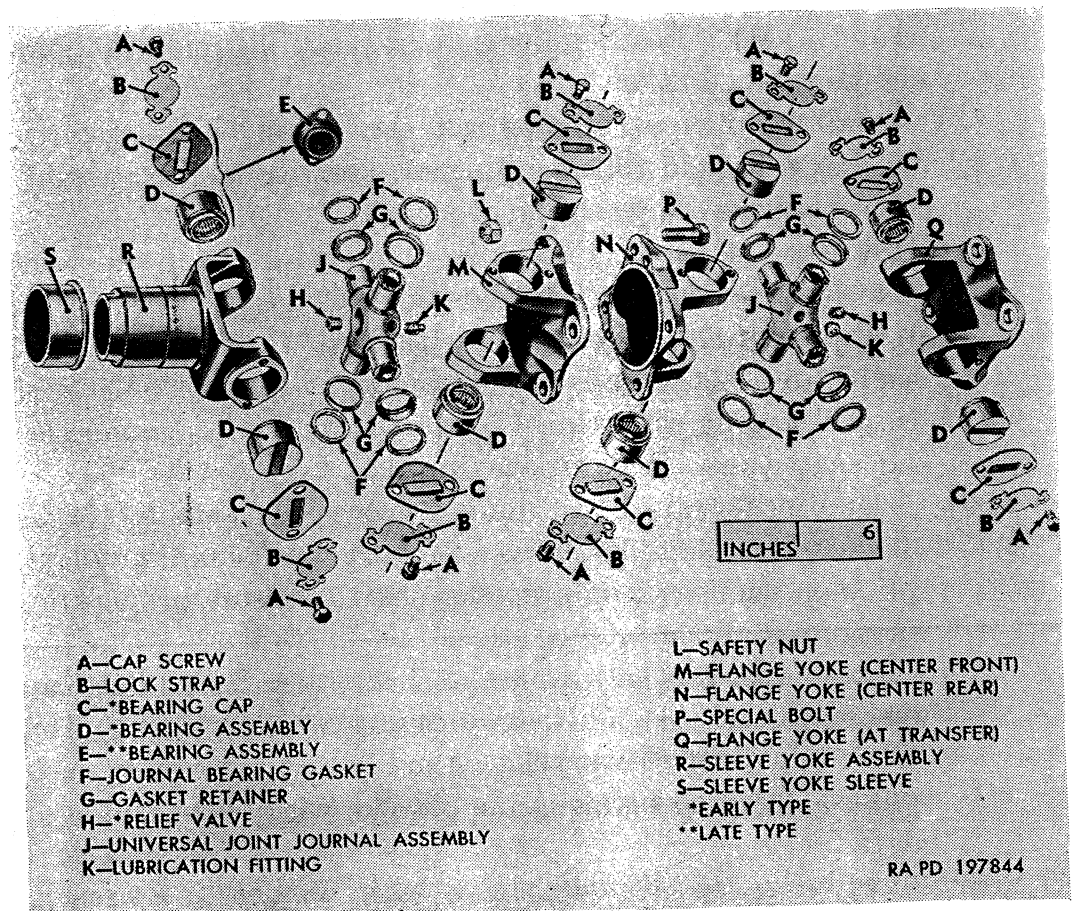

Figure 242. Transmission-to-transfer propeller shaft universal joint components.
*Note.* The key letters noted in parentheses are in figure 242, except where otherwise indicated.